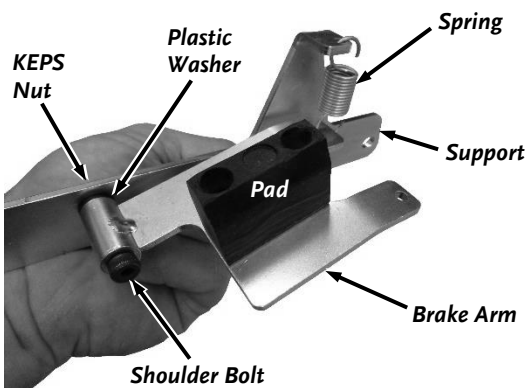

Figure 4
3. Secure the Brake Arm to the Support with the 10-24 Shoulder Bolt, Washer, and KEPS Nut using a 1/8" Allen Wrench and a 3/8" Wrench (**Figure 4**).